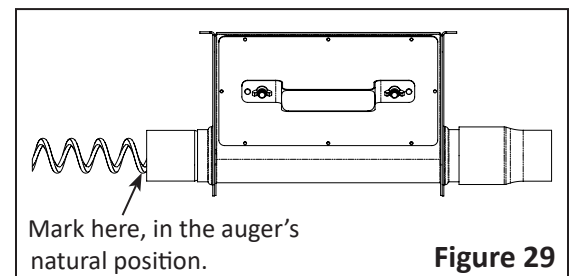

Figure 29
4. From the boot end, pull and release the free end of the auger a few times. This will ensure the auger is in its natural position. Place a mark at the end of the boot as shown in Figure 29.